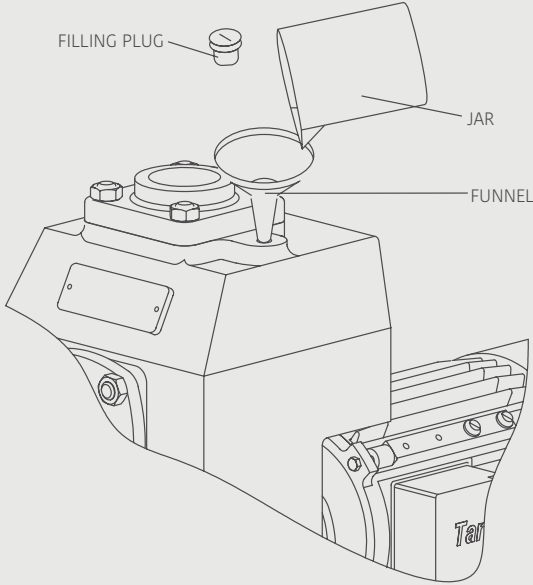

Fig. 3
6. Remove The Filling Plug And Pour Water, As Shown In Fig. 3 Below; Into The Casing Till It Overflows. Replace The Filling Plug And Tighten It.